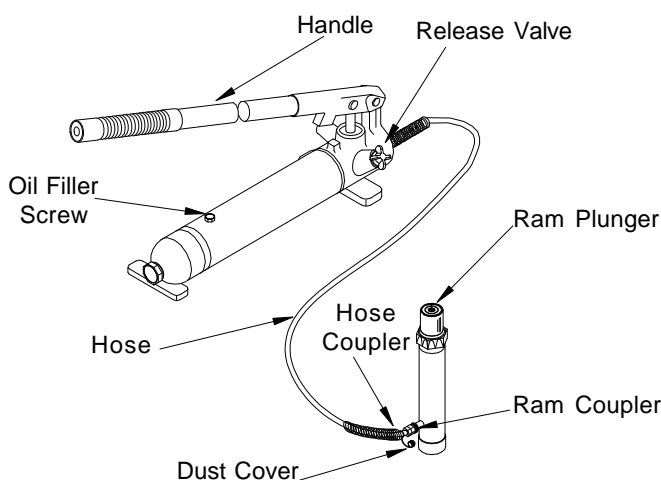

Figure 1 - Model No. 50364 & 50347 Components
BEFORE USE (Refer to Figure 1 above)
1. With ram fully lowered, set pump unit in its normal, level position. Locate and remove oil filler screw (see Figure 1).